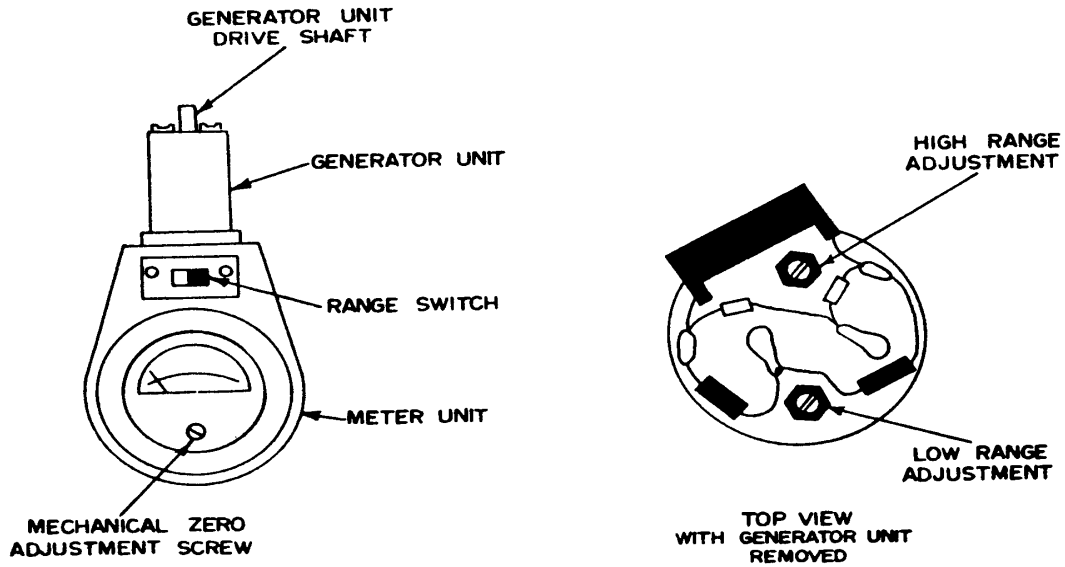

Figure 1. Electric tachometer - generator.
(1) Repeat **7i** through **8a(3)** above.
(2) Adjust tachometer calibrator for 12.005 ms on frequency counter.
(3) Adjust low range adjustment (fig. 1) f or 2500 rpm on TI (R).
(4) Set RANGE switch of TI to HI.
(5) Connect 1 to 1 ratio drive adapter to tachometer calibrator in a horizontal plane.
(6) Adjust tachometer calibrator for 12.005 ms on frequency counter.
(7) Adjust high range adjustment (fig. 1) for 5000 rpm on TI (R).
(8) Repeat **7i** through **8a(8)** above.